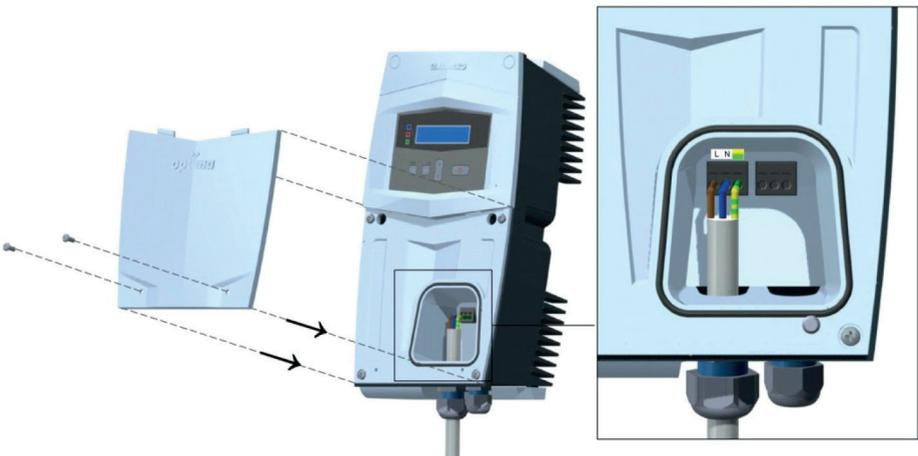

Figure 6.10: Refitting the Bottom Cover
- Refit the cover. See Figure 6.10.